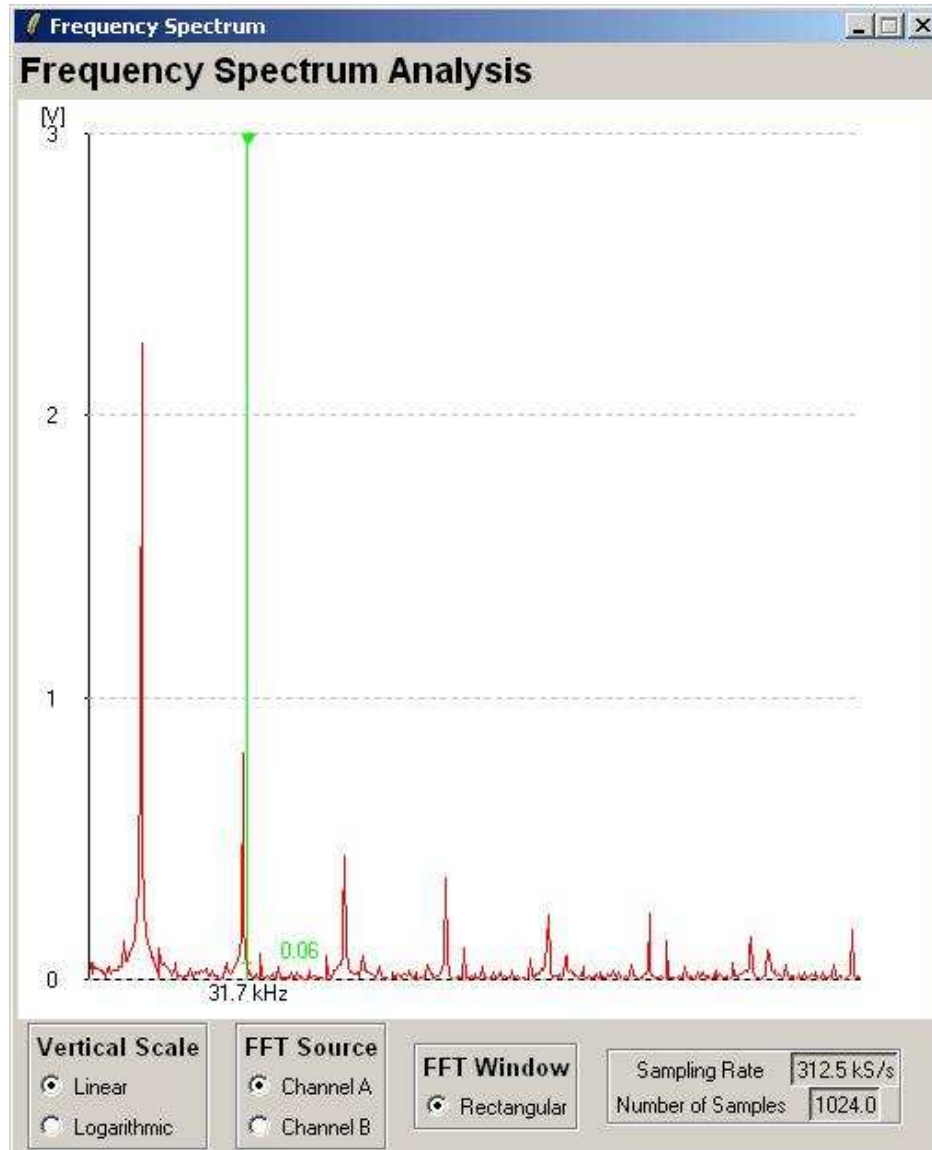

Figure 10: Square Wave Spectrum
Clicking on Tools -> Spectrum Analysis brings up the spectrum analysis display of figure 10. The displayed spectrum in this image is a 10kHz square wave.
- The Effective Sampling Rate is shown in a readout at the bottom right corner of the spectrum display. This is important: the sampling rate must be at least twice the frequencies being analysed to avoid aliasing. Put another way, there must not be frequency components above the Nyquist rate, which is half the sampling rate. In the example shown in figure 10, the sample rate is 200kHz. The frequency components range from 10kHz to 90kHz, below the Nyquist rate of 100kHz⁶.
- As the readout cursor is dragged higher in frequency it jumps from bin to bin, reading out the centre frequency of each bin. A given frequency component may not be centred in its bin, so the frequency readout will be only approximate. For example, in figure 10, the square wave frequency (generated by a Syscomp WGM-101 waveform generator) is at a frequency 10kHz to within a fraction of a Hz. The 9th harmonic is at 90kHz. The spectrum display readout puts the 9th harmonic at 90234 Hz, which is only approximately correct.
Determine the frequency resolution (bin spacing) for the case of the display of figure 10.